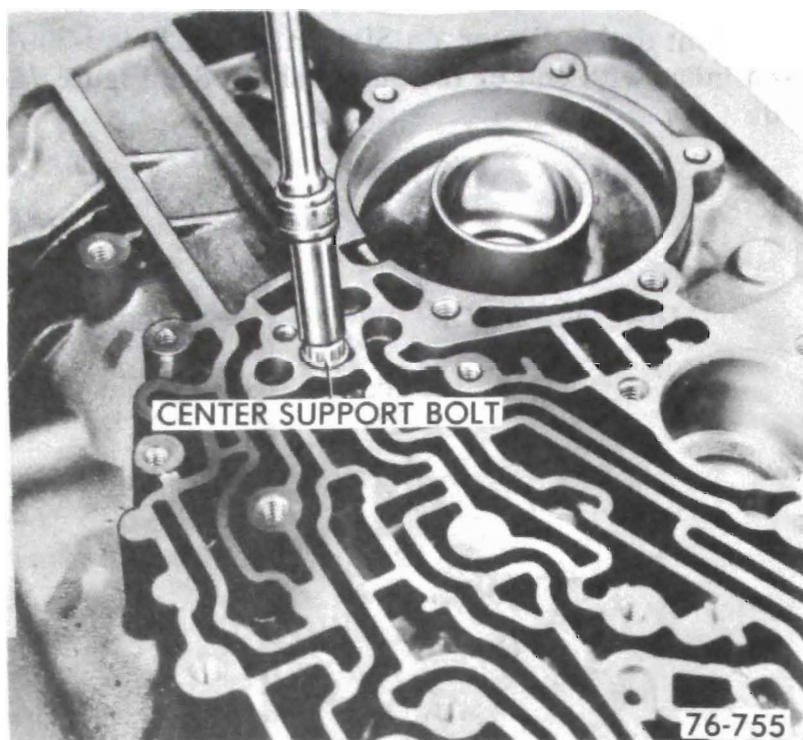

Figure 76-91
11. Remove center support to case bolt using a 3/8" 12 point thin wall deep socket. See Figure 76-91.